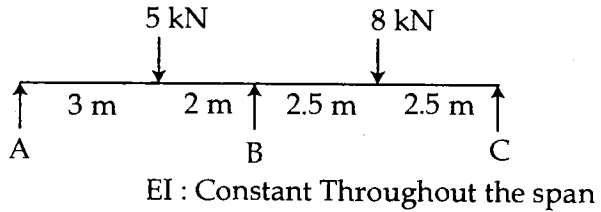

Fig. 3
- (b) Analyse the beam (shown in Fig.3) using moment distribution method and draw the bending moment diagram indicating its values at critical points.